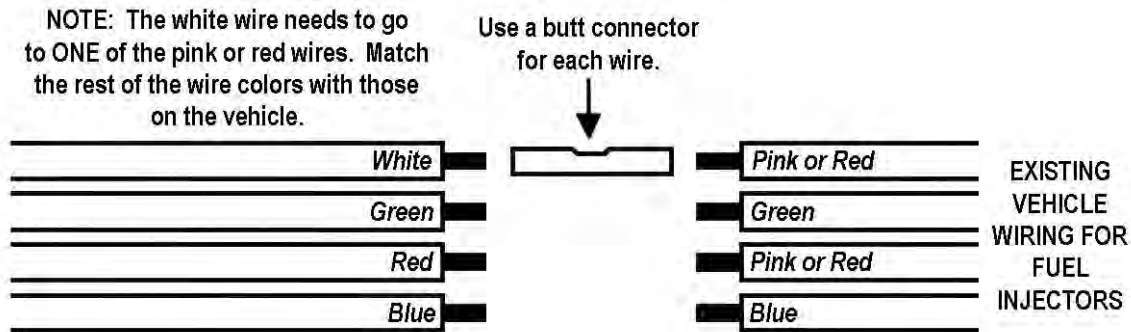

Figure 3
4. Cut the (4) injector wires about 12" from the factory injector connectors. Strip 1/4" of the insulation from the wires left on the vehicle. Connect these to the wires on the harness adapter assembly by using the butt connectors provided. If all wire colors match one for one, connect them. If they do not, see **Figure 3**. The white wire needs to go to ONE of the pink or red wires. MATCH the remaining wire colors with those on the vehicle.